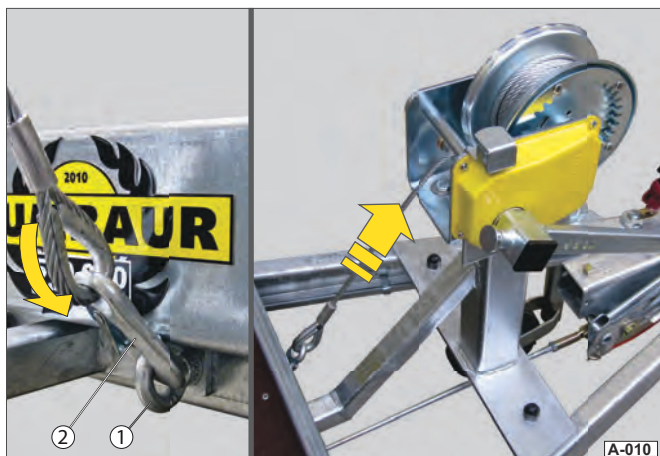

Fig. 10 Securing lashing devices
- ▶ Release the cable and remove the snap hook (Fig. 10 /2) from the loaded vehicle.
- ▶ Hook the snap hook onto the eyelet (Fig. 10 /1) on the trailer / cable winch frame.